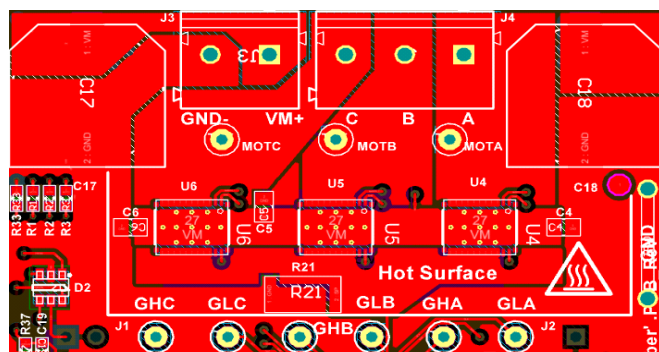

Figure 7-2. Top Layer
- Use the smallest drill size allowed by the design. The example in Figure 7-2 uses vias with a 10-mil drill hole and a 16-mil solder pad.